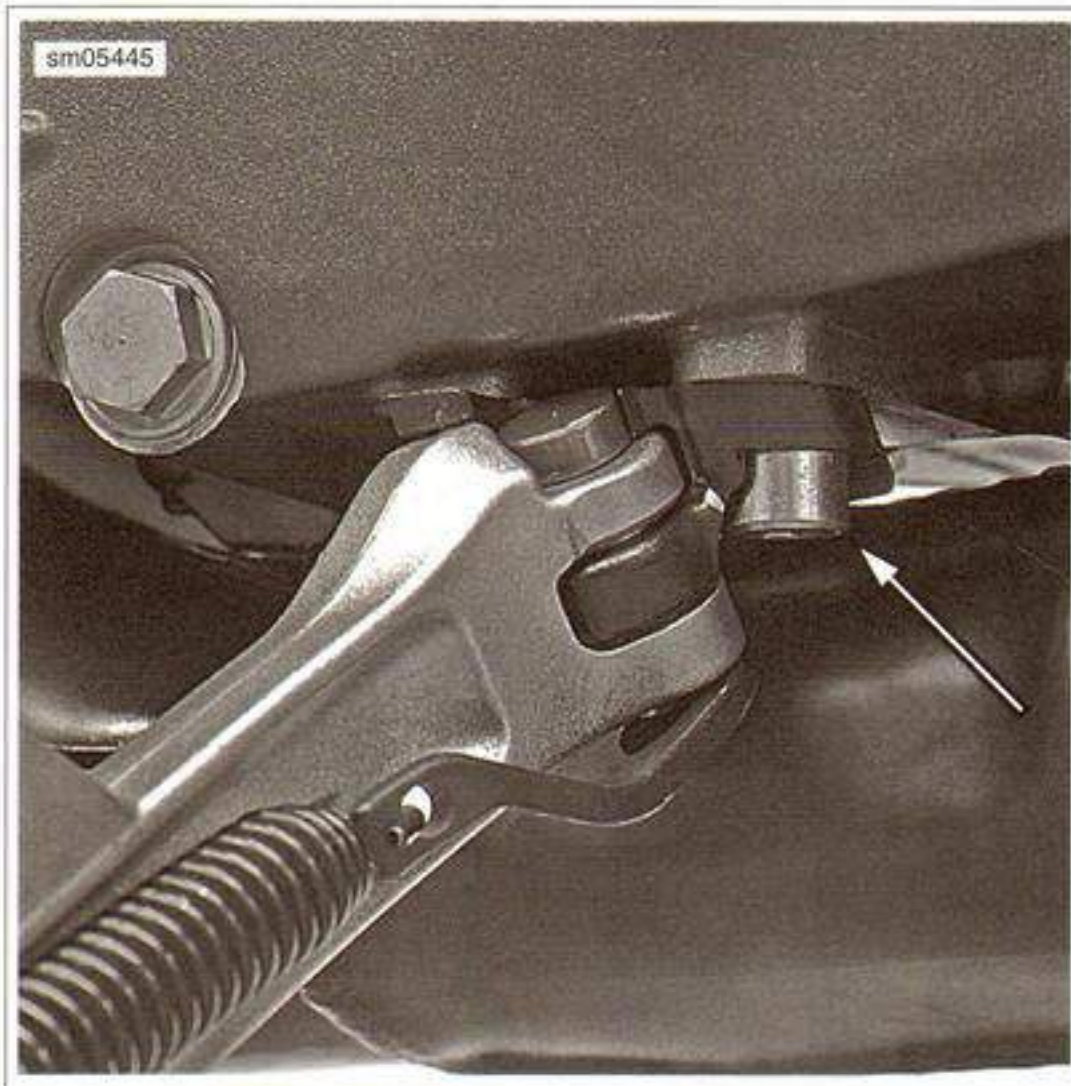

Figure 2-168. Sidestand Fasteners
1. See Figure 2-168. Remove the sidestand bracket fasteners and the sidestand assembly.